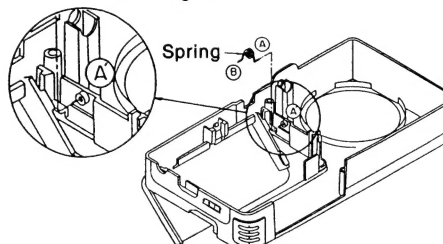

Fig. 4
2. With the lid open, insert spring end A in hole A in the front cabinet as shown in Fig. 4.